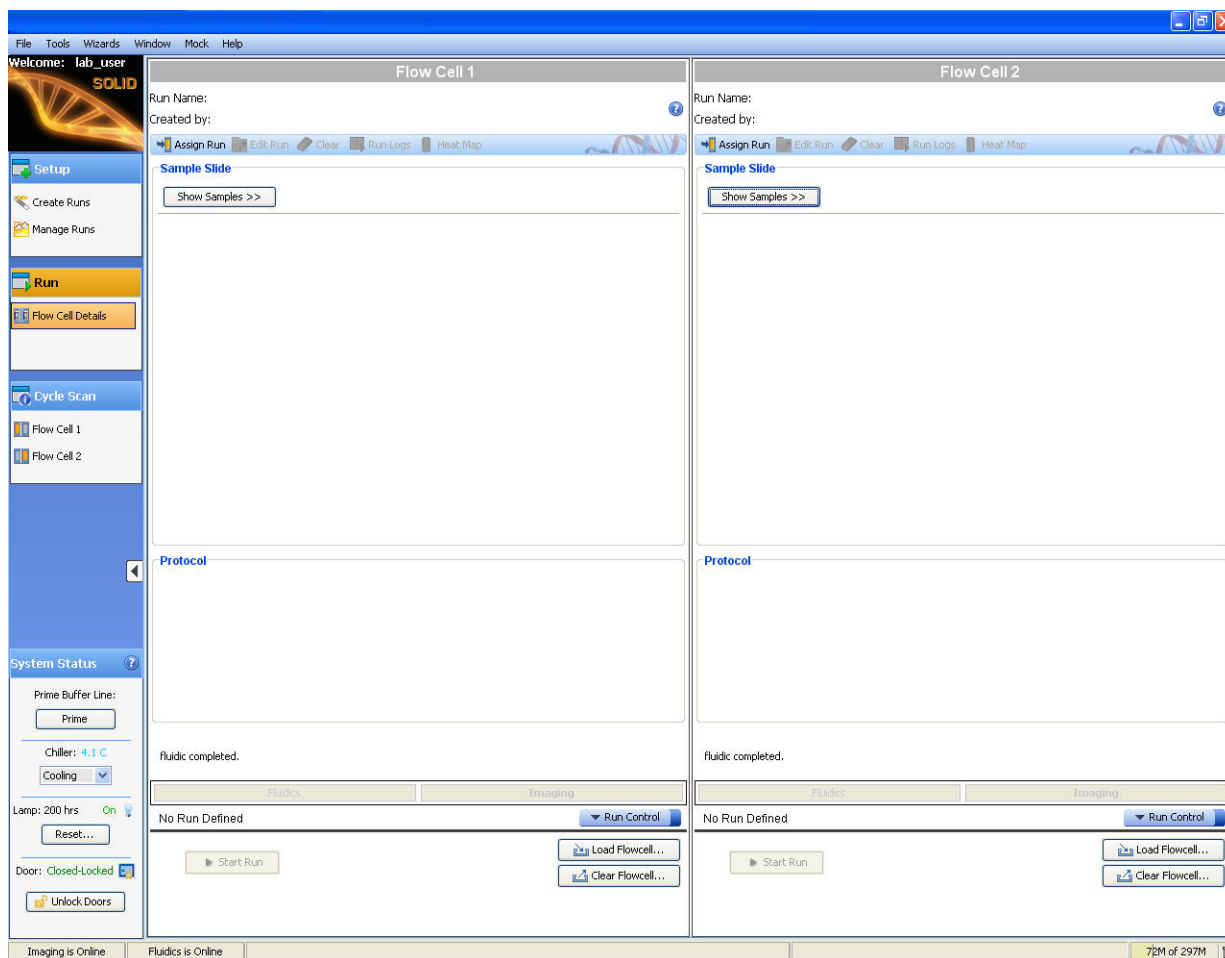

Figure 46 Use the run wizard to create a sequencing run.
1. Click **Create Runs** in the Setup task pane on the left menu pane of the ICS (see Figure 46).